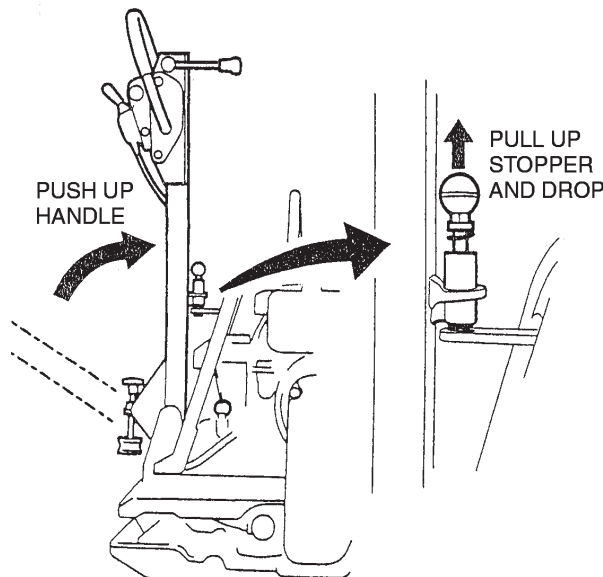

Figure 20 . Stowing the Handle
1. Push up the handle (Figure 20).